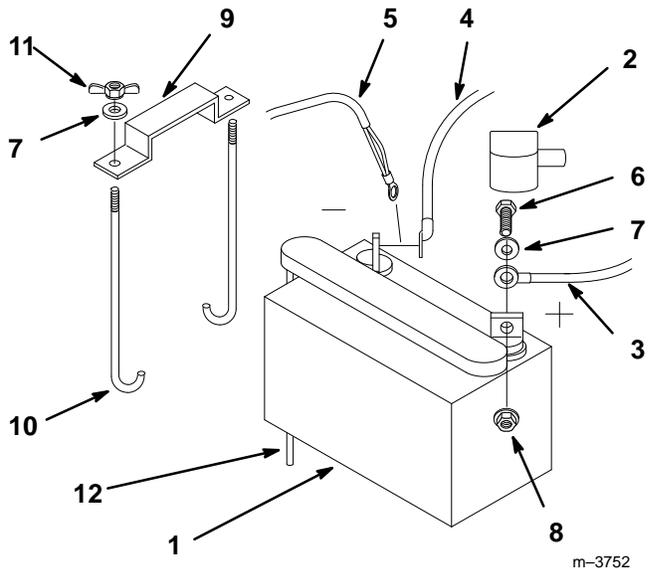

Figure 7
6. Position battery in tray with terminal posts toward the engine (Fig. 7).
9. Secure cables with (2) 1/4 x 3/4” (19 mm) bolts 1/4” washers and 1/4” locknuts (Fig. 7).
10. Secure battery with J-bolts, hold down clamp and (2) 1/4” washers and (2) 1/4” wing nuts (Fig. 7).